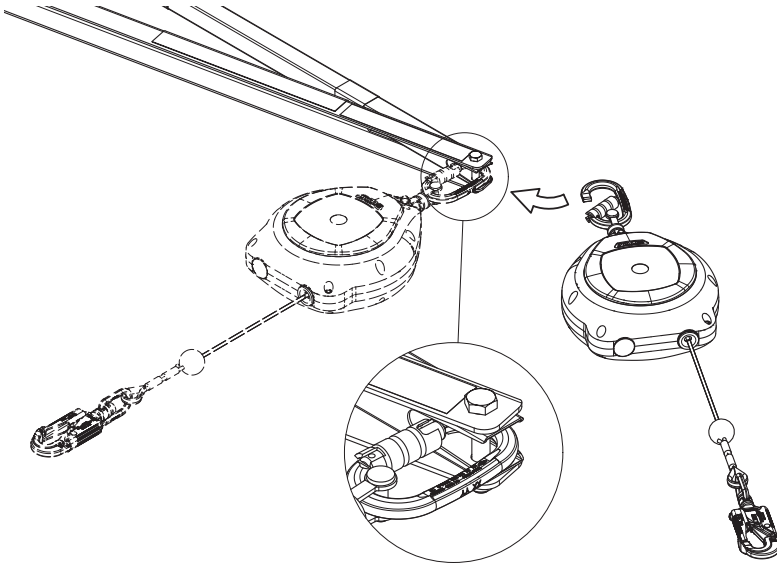

Figure 29. Attaching the 6,2m Fall Arrest Block.
- 10.2 Connect the Fall Arrest Block. Make sure that the component is correctly attached and secured to the SkyReach Anchor point. Figure 29 is showing how the 6,2 m Falcon Fall Arrest Block is attached to the anchor point.